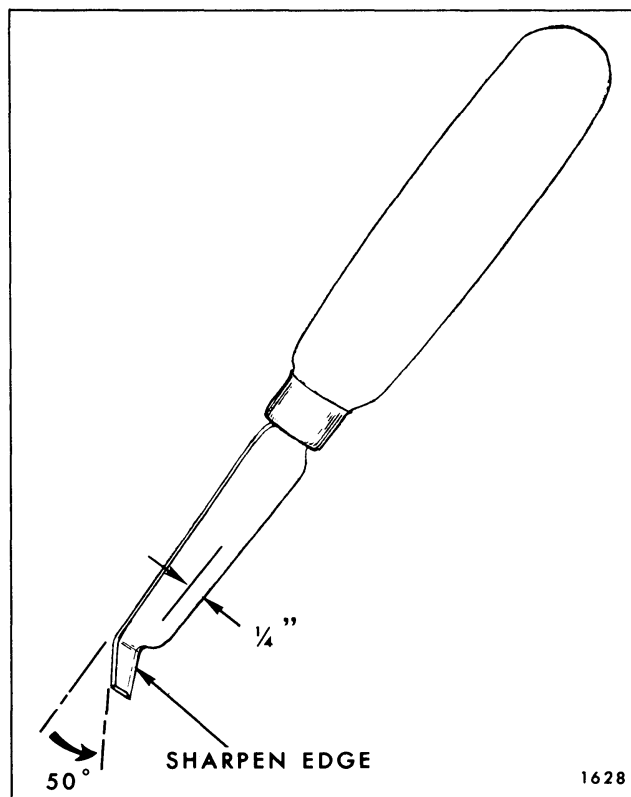

Fig. 8-26-Fabric Cover Trimming Tool
- NOTE:** When trimming cover, tool J-21092 or equivalent may be used (Fig. 8-26).